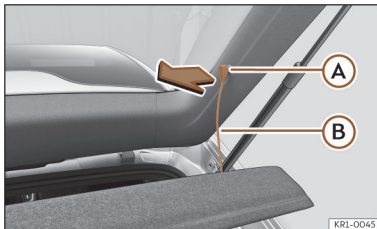

Fig. 165 In the boot: removing and installing the shelf.
- Detach the cord loops >>> **Fig. 165** **A** from their hooks **A**.
- Attach the securing straps >>> **Fig. 165** **B** onto the rear lid.